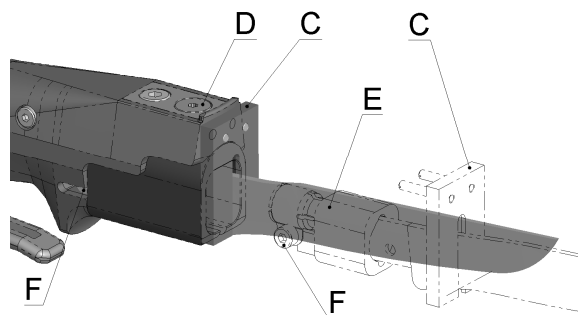

Fig. 3 Knife connection to machine EFA805; PK-25
The shield (Item C, Fig. 3) is a safety component and ensures that an insufficiently tightened knife cannot be thrown out of the machine while the latter is operating.
1. Release the lock (Item D, Fig. 3) with a 3mm (2mm) Allen key and remove the shield (Item C, Fig. 3).
2. Push the knife (Item E, Fig. 3) as far as it will go into the machine. Important: during this procedure the screw (Item F, Fig. 3) must be released.
3. Tighten the screw (Item F, Fig. 3) to 3 Nm using the torque wrench supplied.
4. Fit the shield (Item C, Fig. 3) and secure with the lock (Item D, Fig. 3).